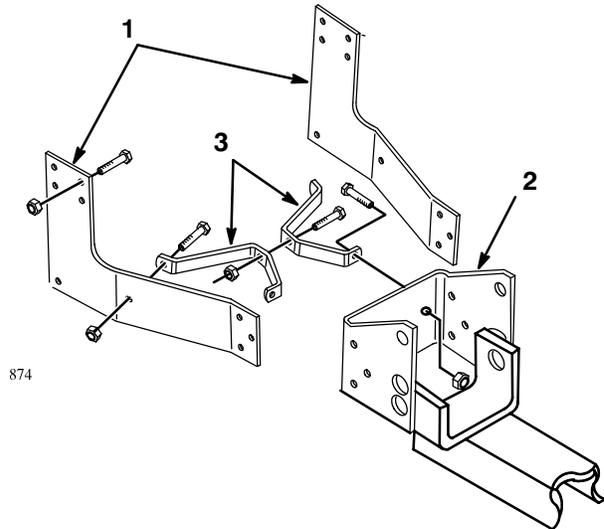
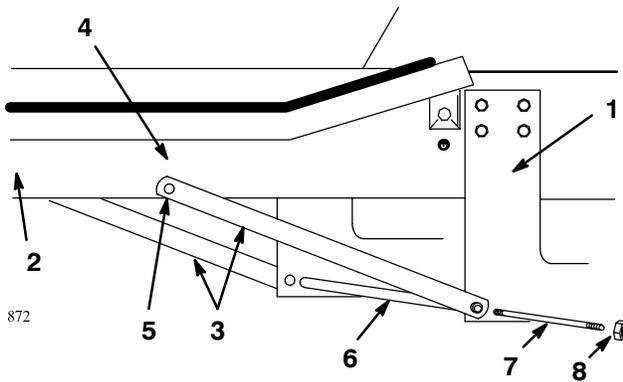

Figure 4
Figure 5
1. Loosely attach the right and left side brackets to the frame rails with bolts (5/16 x 3/4 in.) and locknuts (Fig. 4).
- Loosely assemble the center braces to the brackets and the frame mount with bolts (5/16 x 3/4 in.) and locknuts (Fig. 4).
- Attach the braces to the left and right brackets with the support tube, support rod, and locknuts (5/16 in.) (Fig. 5).
- Move the braces up to the frame rails Figure 4. Using braces as a guide, locate holes 1/2 inch from the bottom of the frame rail. Drill 11/32 in. (.344 in.) diameter hole in the left and right frame rails, if required (Fig. 5).
2. Remove the blade frame from brackets and center braces (Fig. 4).
3. Remove brackets and braces from the tractor frame (Fig. 5).